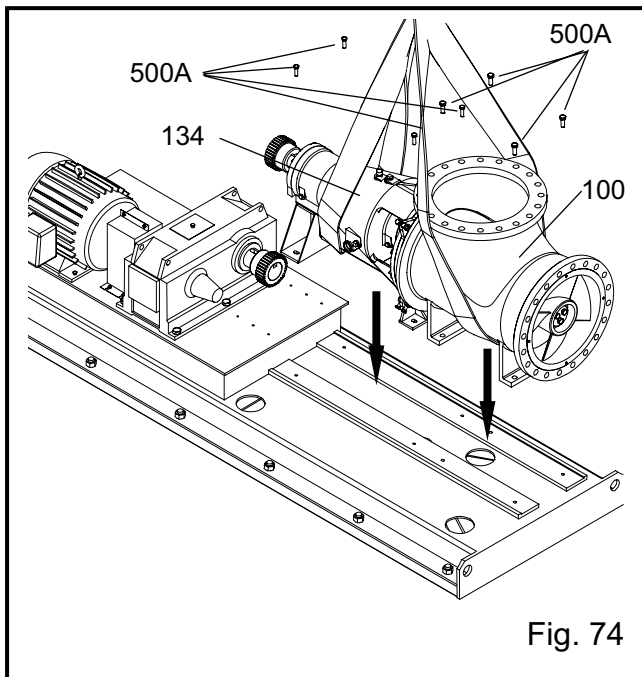

Fig. 74
this time. Install the pump to sub-base bolts (500A) and remove the lifting straps or chains from around the bearing housing (134) and elbow (100), see Fig. 74.